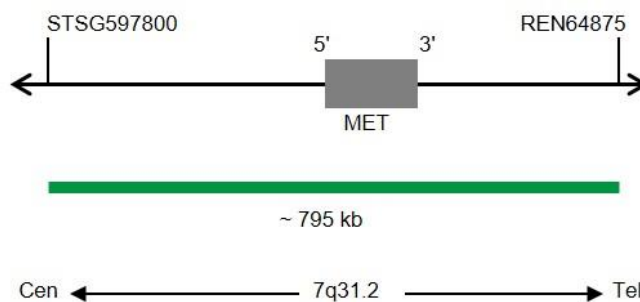

Fig. 1: SPEC MET Probe map (not to scale)
- ZyGreen (excitation 503 nm/emission 528 nm) labeled polynucleotides (~10 ng/ μ l), which target sequences mapping in 7q31.2* (chr7:115,925,700-116,718,699) harboring the MET gene region (see Fig. 1).